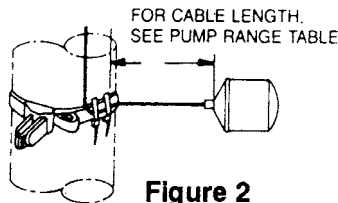

Figure 2
5.2 **Single Piggyback Float.** To install a single piggyback float, first determine the pumping range from the Pumping Range Table. Attach the float cable to the float clamp using instructions and parts supplied with the float switch. Attach the float clamp to the discharge pipe as shown in Figure 2. Plug the float switch into the electrical outlet, and the pump into the back of the float plug. Fill the basin with liquid and adjust the height of the clamp, and float cable length to achieve desired pumping range.